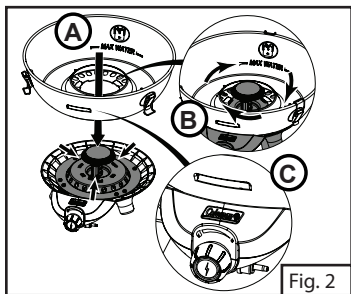

Fig. 2
4. The water pan will be pre-assembled to the burner base. If needed, tighten the water pan to the burner base by turning the water pan clockwise (Fig. 2-B) until the viewing window faces the control knob (Fig. 2-C).